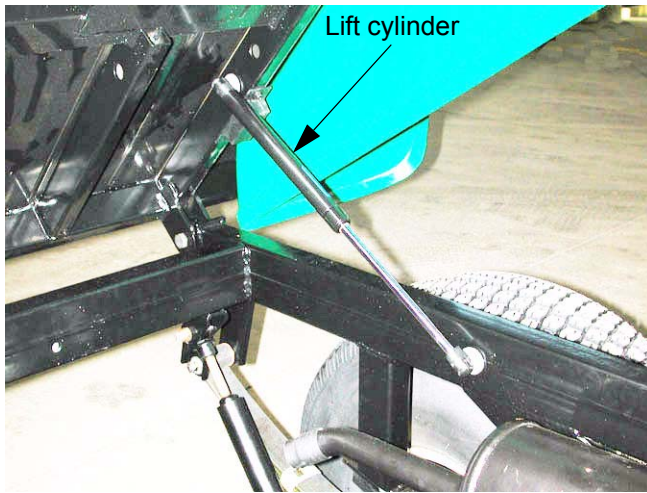

Figure 4.2
- 4.2. The manually operated lift bed now features a gas charged lift assist cylinder on the 6 X 4 as well as the 4 X 2. See Figure 4.2.